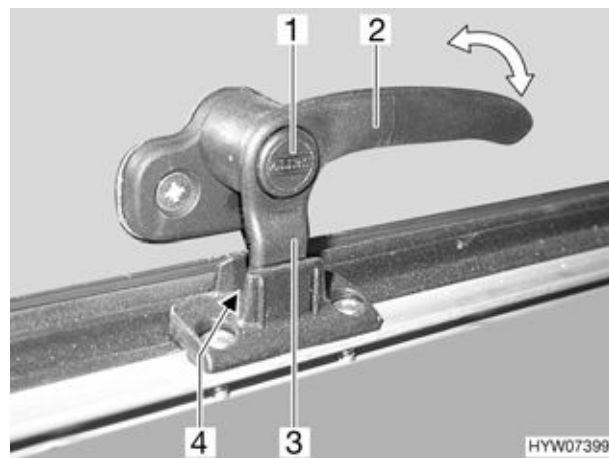

Fig. 45 Hinged window, window handle in the "continuous ventilation" position (variant 3)
- Continuous ventilation (Fig. 45)
- Press the safety knob (Fig. 45,1) down and hold it.
- Set window handle (Fig. 45,2) into a vertical position or turn a quarter turn towards the centre of the window.
- Return window handle into its original position. Move the locking catch (Fig. 45,3) on the window handle into the recess of the window catch (Fig. 45,4).